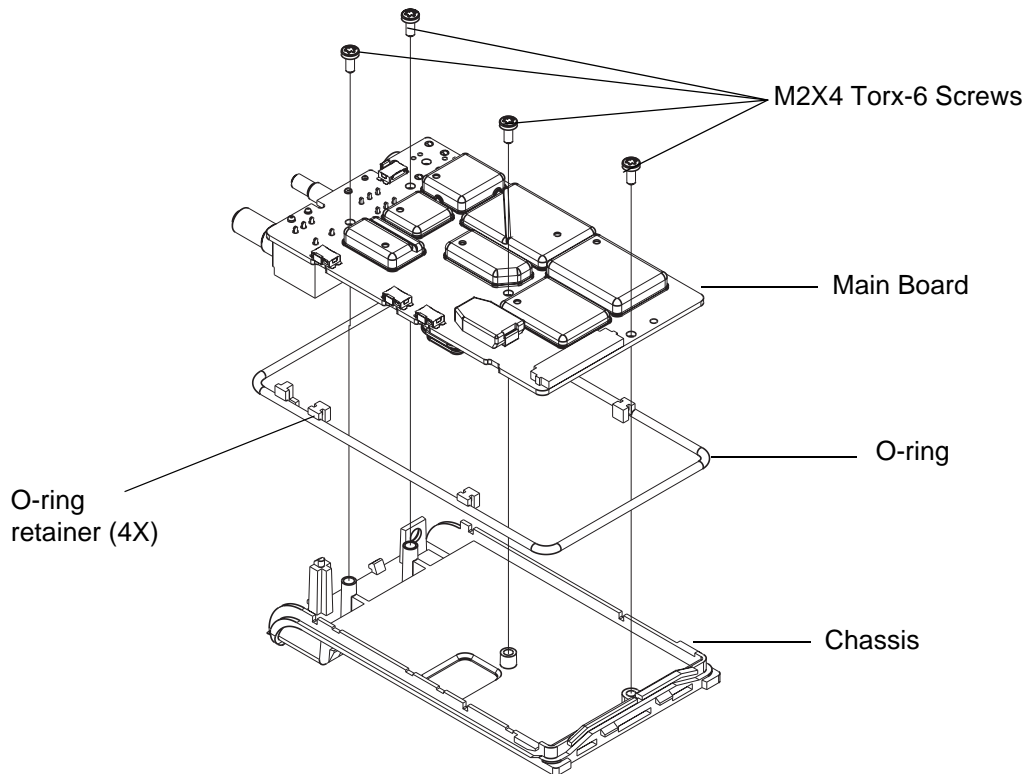

Figure 3-21 Remove Main Board from Chassis
1. Lift the main board from the chassis (See Figure 3-21).